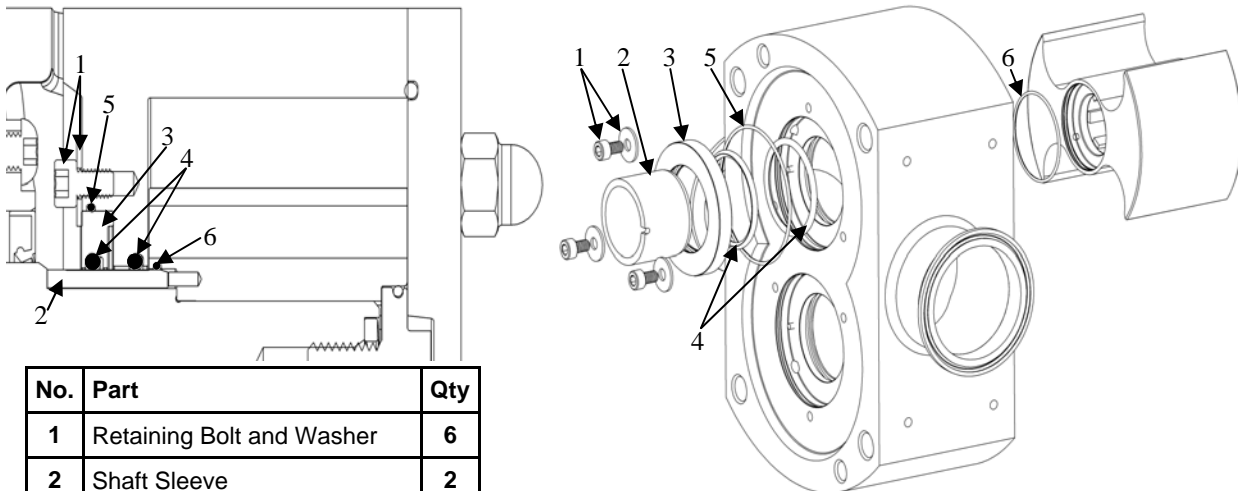

Figure 31: Double O-ring Seal
Disassembly: The double o-ring seal option is shown in Figure 31. Remove the retaining bolts and washers using the appropriate driver and slide the o-ring carrier out of the body. Remove the o-rings from the body, o-ring carrier, and rotor (Figure 31, items 4, 5, 6). If damaged, replace o-rings. Slide the shaft sleeves off the shafts and inspect for damage. Do not re-use sleeves that are damaged (sleeve surface grooved or scratched).
Disassembly: The single mechanical seal option is shown in Figure 33. The AL single mechanical seal is designed to be front pull out without the need to remove the pump body. Using the o-ring tool provided by Ampco remove the mechanical seal from the rotor and body. Inspect the seals for chipping, scratches, or any evidence of cracks on the seal face (the mechanical seals are interchangeable). Remove the o-rings from the body and rotor (Figure 31, items 3, 5). If damaged, replace o-rings. If any of the seals are damaged do not re-use them. To remove the mechanical seal base loosen the retaining bolts and washers using the appropriate driver and slide the single mechanical seal bases out of the body.